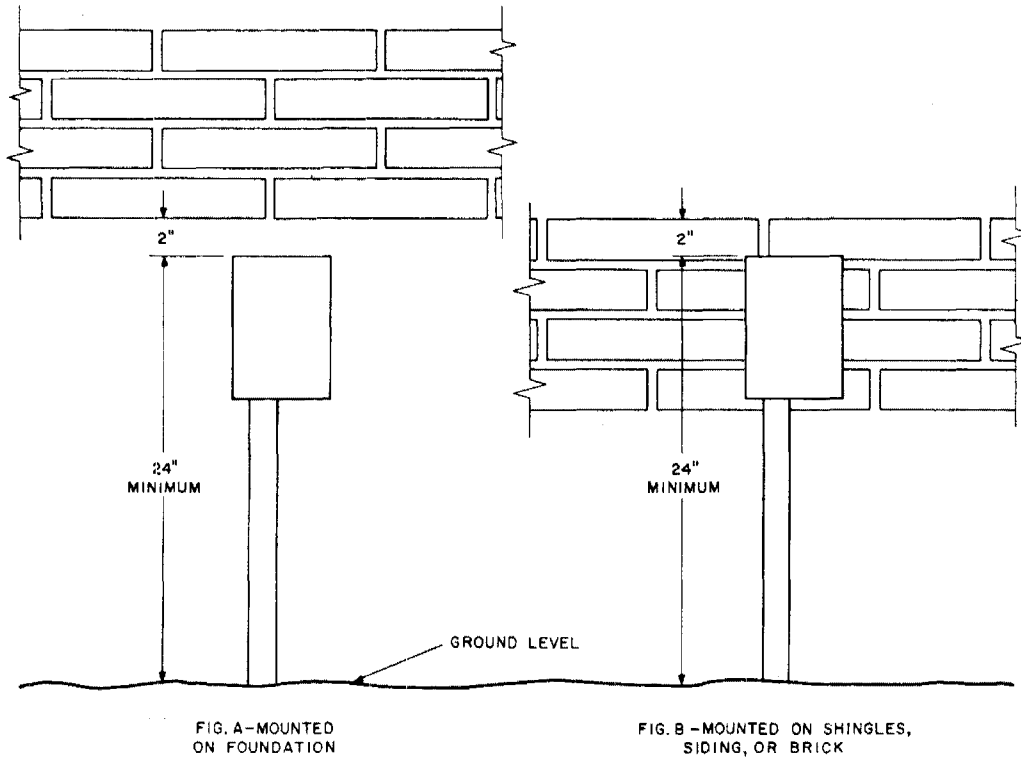

Fig. 2—Mounting 3A1 Closure
3.01 The 3A1 Closure should be mounted as illustrated in Fig. 2. Note that the closure should be placed with the top a minimum of 24 inches above ground level.